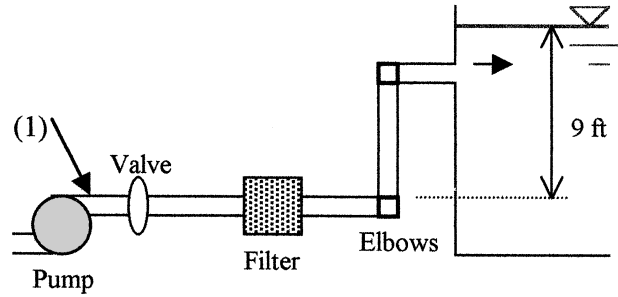

Fig. P6.108
**6.108** The water pump in Fig. P6.108 maintains a pressure of 6.5 psig at point 1. There is a filter, a half-open disk valve, and two regular screwed elbows. There are 80 ft of 4-inch diameter commercial steel pipe. (a) If the flow rate is  $0.4 \text{ ft}^3/\text{s}$ , what is the loss coefficient of the filter? (b) If the disk valve is wide open and  $K_{\text{filter}} = 7$ , what is the resulting flow rate?